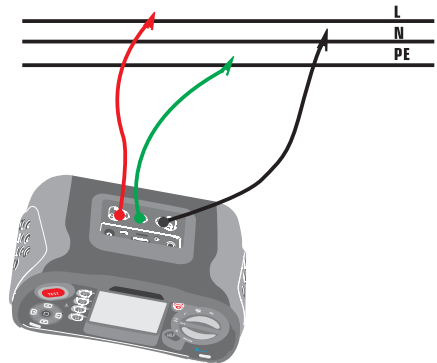

Figure 8 Hi Amp LOOP-Test lead connection
- 3-Connect the test leads as shown in the *Figure 8*